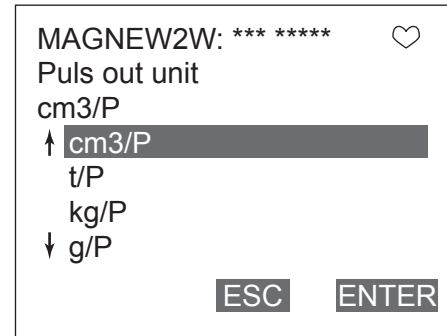

Figure 7-27
Figure 7-27 will then be displayed.
2. Once the display as shown in Figure 7-27 appears, move the arrow key up or down to select pulse scale unit. After making a selection, press F4 (ENTER). If F3 (ESC) is pressed here, the selection will be canceled and the display will return to the Pulse output menu.